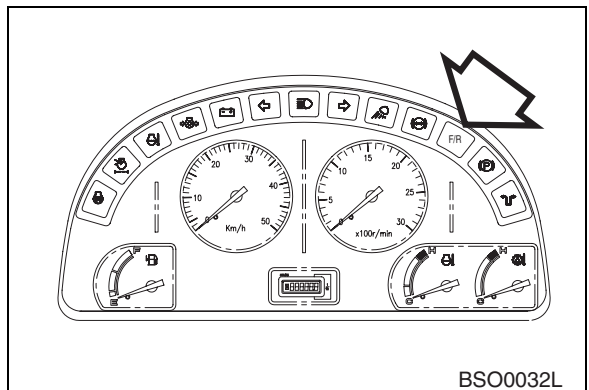

Figure 39
2. Press F/R selector switch to the "I" position, and then release. The switch will return to the "O" position, but the system will be activated. When system is activated, the F/R selector indicator light (Figure 39) will be turned "ON."
When the system is deactivated, the F/R selector indicator light (Figure 39) will be turned "OFF."